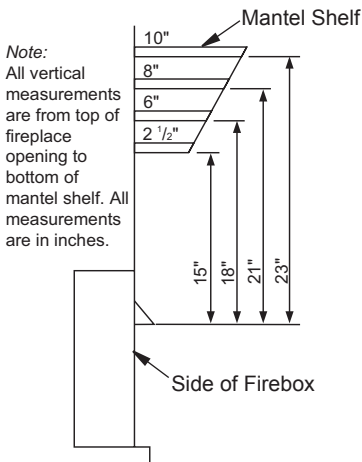

Figure 11 - Minimum Mantel Clearances for Built-In Installation
C. For mantel clearances, see Figure 11, page 12.
NOTICE: If your installation does not meet the minimum clearances shown in Figure 11, you must do one of the following: